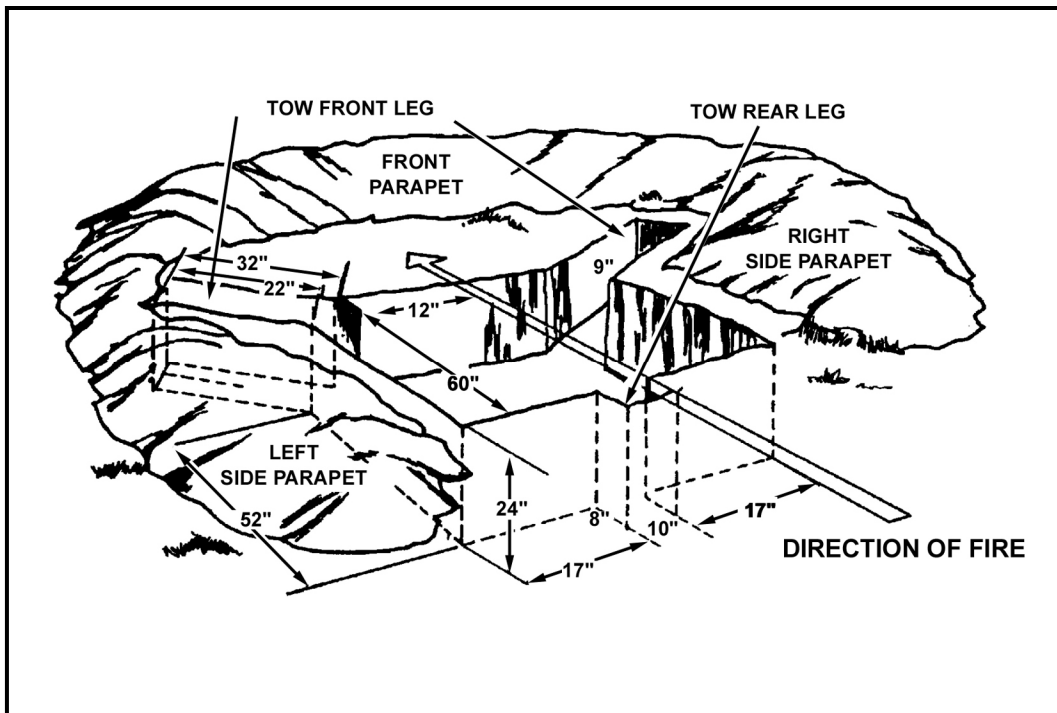

Figure 5-4. Tripod-mounted TOW fighting position.
- (1) Assemble the launcher.
- (2) Clear the fields of fire while ensuring the sector is under observation.
- (3) Dig the weapon position first, then add overhead protection for the crew.
- (4) Build a parapet to the front and flanks of the position.
- (5) Disconnect the MGS and place it in the position made for it. Place the launcher into the position. Reconnect the MGS and check the boresight.
- (6) Improve the position by adding overhead cover for the crew and system.
- (7) Camouflage the position.
- (8) Inspect the position and its camouflage. If possible, move at least 35 meters to the front of the position and study it.
- b. The initial position should look like the position in Figure 5-4.